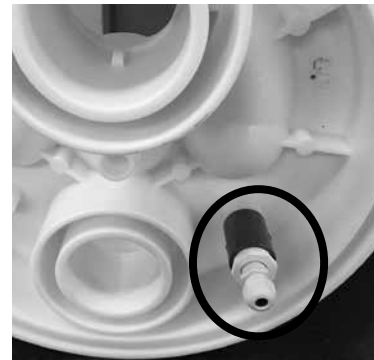

Figure 15
1. Glue the bonding adapter (part# 119) to the port on the lower right side of the jet housing (See Figure 15).